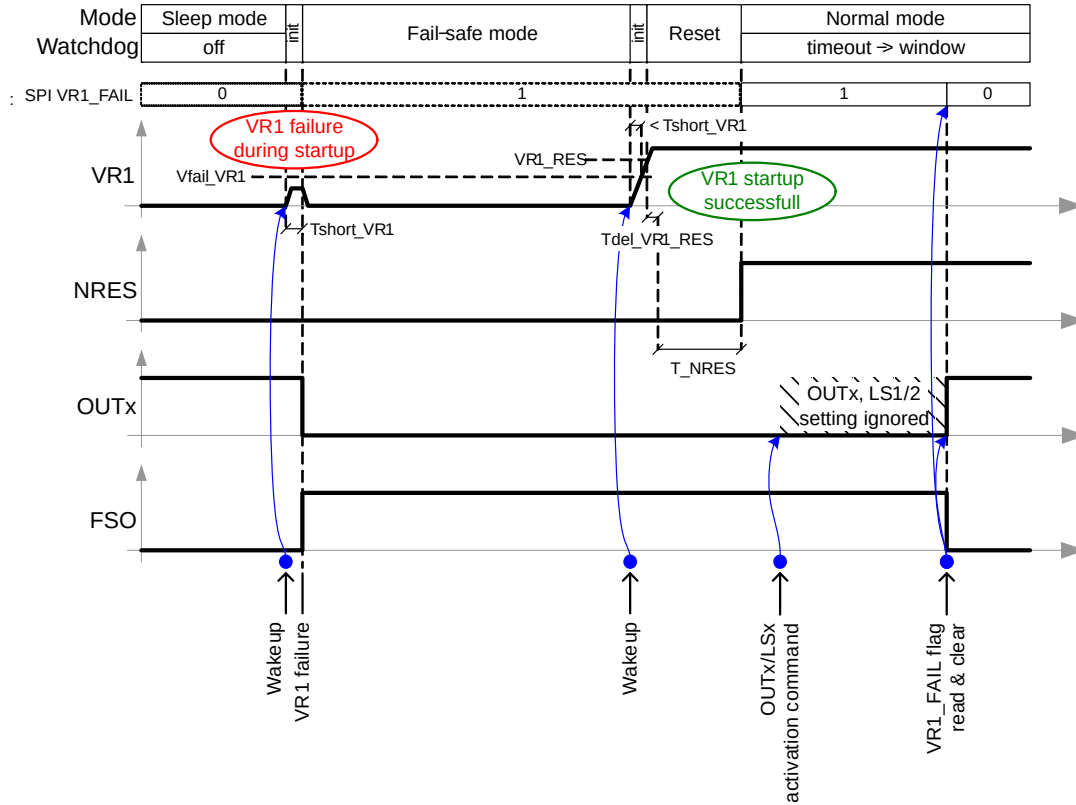

Figure 10. VR1 Monitoring - VR1 Failure during Startup
- VR1 Failure Comparator – during the VR1 start-up and operation, the VR1 voltage is continuously compared with *Vfail_VR1* level (typ. 2 V). During startup, if VR1 does not rise above *Vfail_VR1* level within *Tshort_VR1* (typ. 40 ms), it’s considered shorted to ground and the device is forced to the Fail-safe mode (see Figure 10). During the VR1 operation, any dip below *Vfail_VR1* level longer than *Tfail_VR1* (typ. 5 μ s) is considered as a failure – temporary excursions of VR1 under the failure threshold can be caused, for example, by EMC, and can lead to memory data inconsistencies inside the MCU. Both the failure during VR1 startup and the operation are latched in the “VR1_FAIL” SPI bit for subsequent software diagnostics.